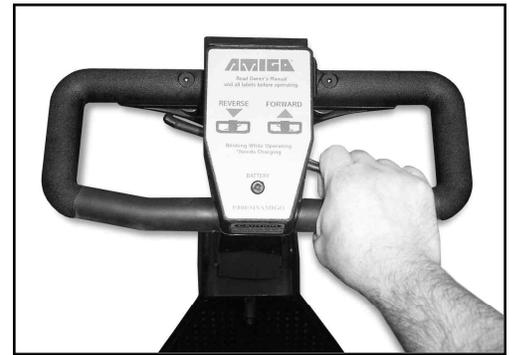

Figure 5
- Pull the Forward Accelerator Lever or the Reverse Accelerator Lever to move the Amigo. To move forward, pull the right side of the Accelerator Lever toward you (**Figure 5**). You can also move forward by pushing the left side of the Accelerator Lever away from you. To operate in reverse, pull the left side of the Accelerator Lever toward you or push the right side of the Accelerator Lever away from you.